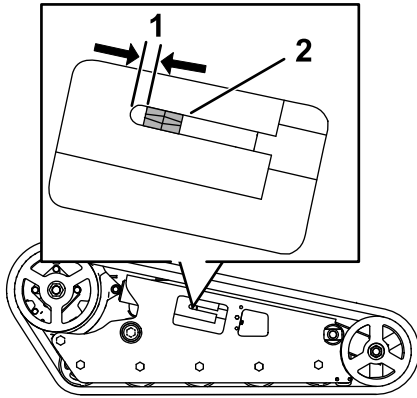

Figure 57
The tension nut should be 1.3 cm (1/2 inch) away from the rear of the tension tube slot (Figure 57). If it is not, adjust the track tension using the following procedure:
5. Using a 1/2 inch drive ratchet, turn the tensioning screw counter-clockwise until the tension nut is 1.3 cm (1/2 inch) away from the rear of the tension tube slot, as shown in Figure 57.